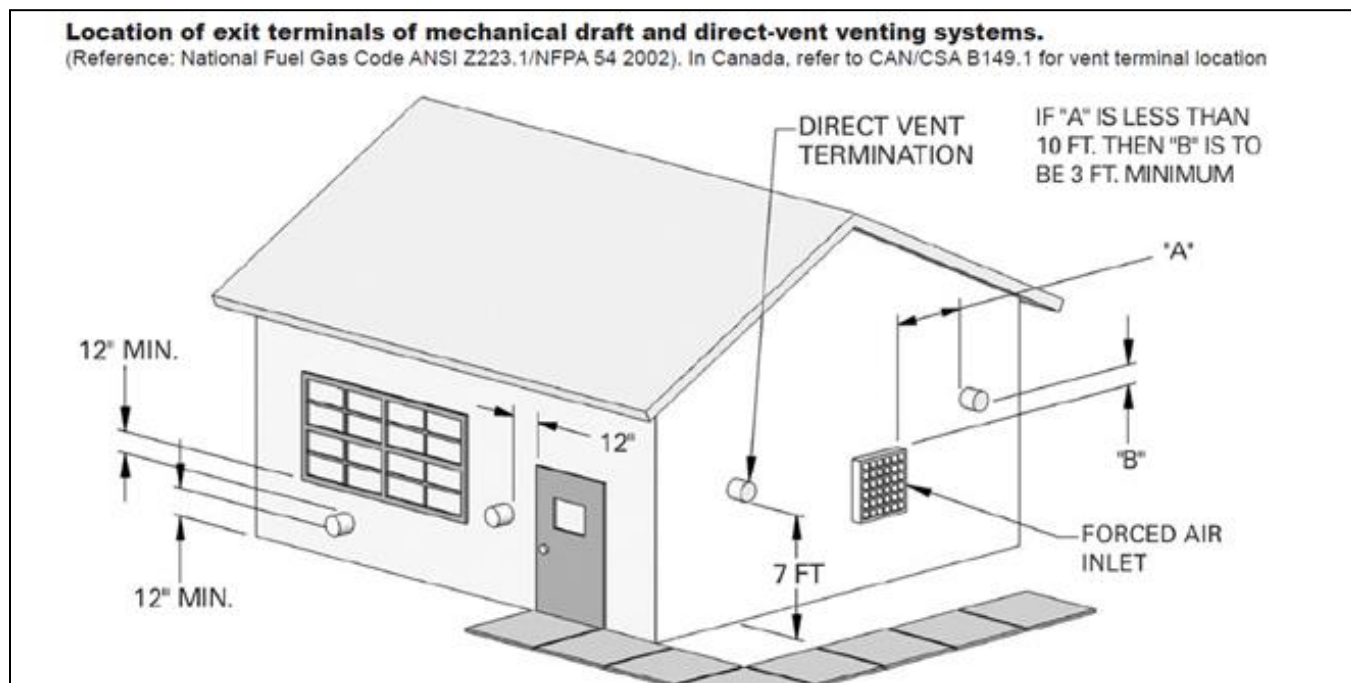

Figure 8
- Follow required minimum clearances located in Figure 8.